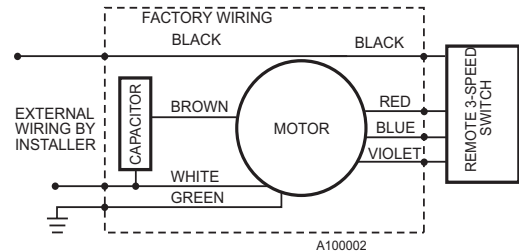

Fig. 16. Typical F116 Series 2 only 120V, 60 Hz or 230V, 50 Hz wiring diagram.
All wiring must comply with applicable codes and ordinances. The power source must agree with the model type: 120V, 60 Hz or 230V, 50 Hz. Refer to figure 16 for electrical connection setup.
2. Refer to figure 16 for typical electrical diagram